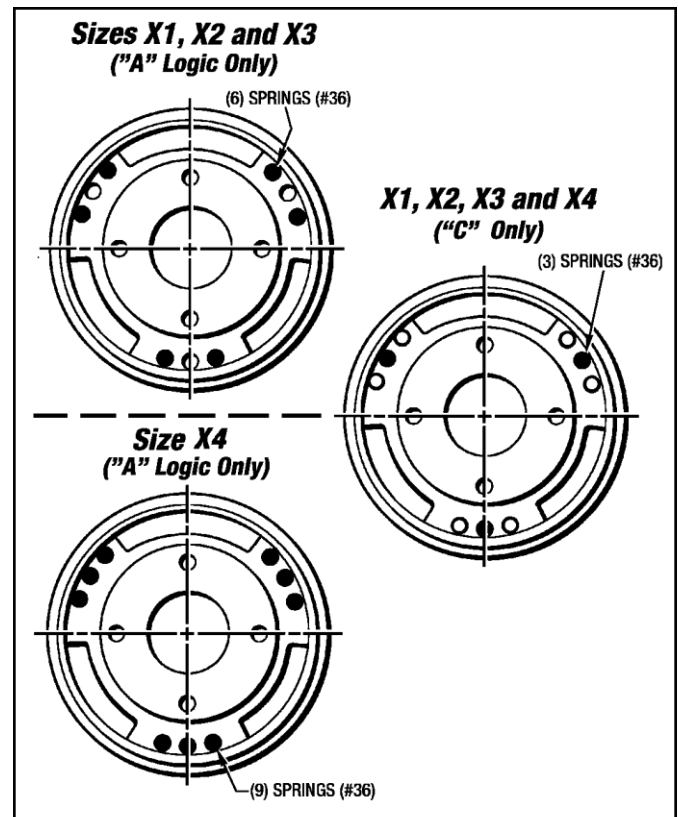

Figure 9.10 - Brake Spring Placement ("A" & "C" Logic Only)
3. Place the correct number of Springs (#36) into the spring pockets of the Piston (#3). (See Figure 9.10)